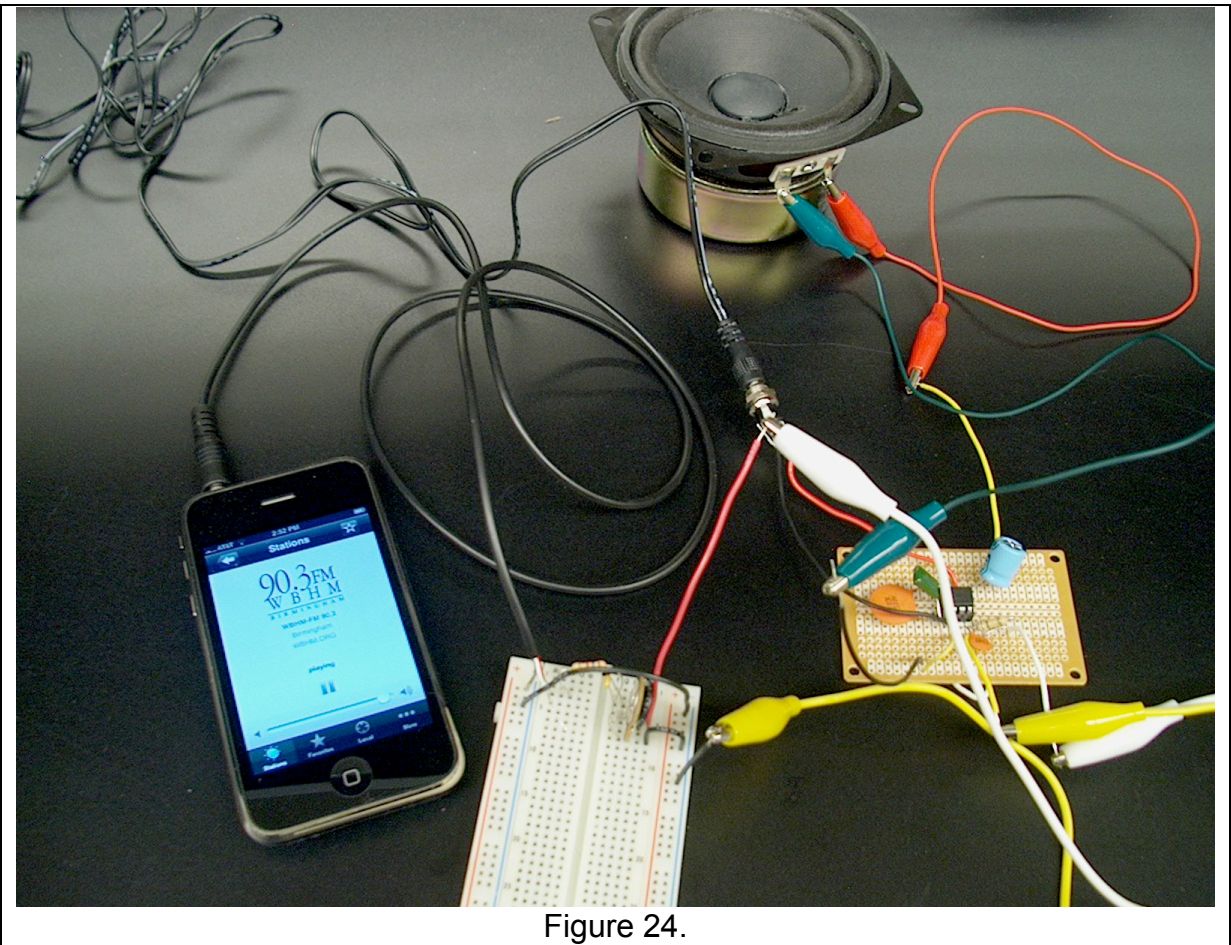

Figure 24.
- Finally, make a second output lead from a piece of hookup wire, with one end in the ground bus, Figure 24.
Once it's working, move the filter output lead (red in Figure 24) back to the row with the input, so that the signal goes directly from the mp3 player to the amplifier. You should hear all the frequencies. When you put the filter back in, by moving the red wire back to the wiper, you should hear the lower frequencies much better than the higher ones.